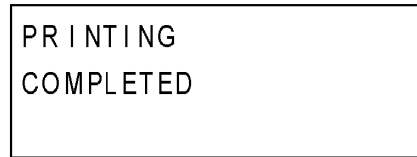
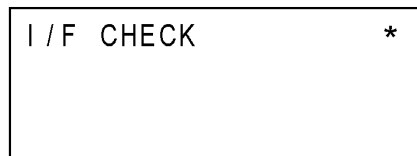

Fig. 41
Fig. 42
- (4) After the completion of printing, the machine cuts the tape automatically and shifts the display to one as shown in Fig.41.
- (5) Check the start position of the print area of the print sample.
- (6) Press the "RET" key while the LCD displays as shown in Fig.41. The display shifts to the RS I/F Port Check Mode as shown in Fig. 42.